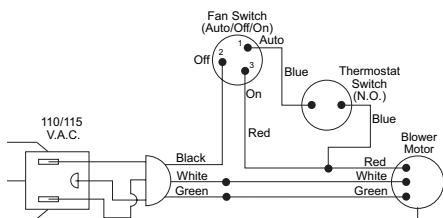

Figure 16 - Wiring Diagram For Blower Accessory Built-In Installation
4. A licensed electrician must follow the wiring diagram to connect incoming electrical supply to fan kit wiring harness (see Figure 16).